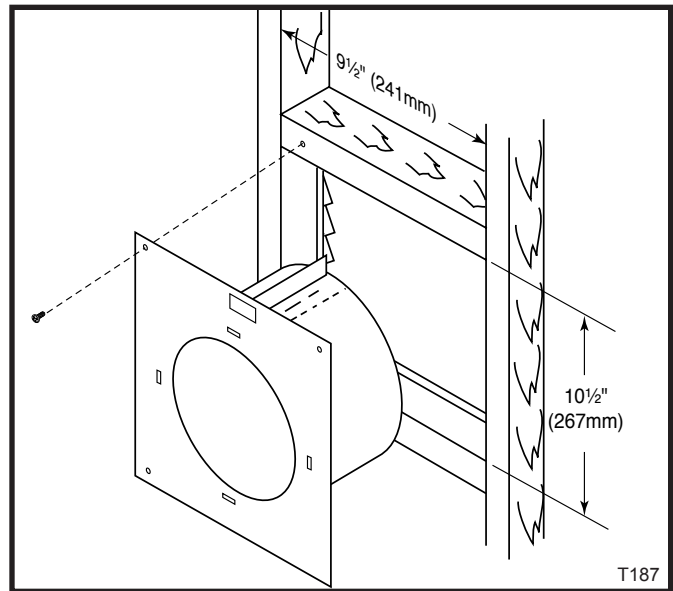

Fig. 20 Install wall thimble with firestop on interior wall.
3. Install the wall thimble assembly through the framed opening so the firestop plate is on the interior wall. (Fig. 20) Telescope section should extend all the way through wall.